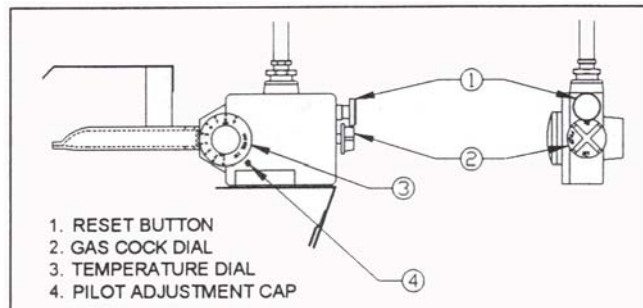

Figure 3
1. Turn gas cock dial (2) to "OFF" position. See Figure 3.
4. Depress and hold reset button (1) while lighting pilot burner flame. On initial startup it will take a little time to purge air from the gas line and valve. Allow pilot to burn at least 30 seconds before releasing reset button. Adjust pilot flame if necessary, as noted under "pilot burner adjustment" below.
1. Remove pilot adjustment cap (4). See Figure 3.